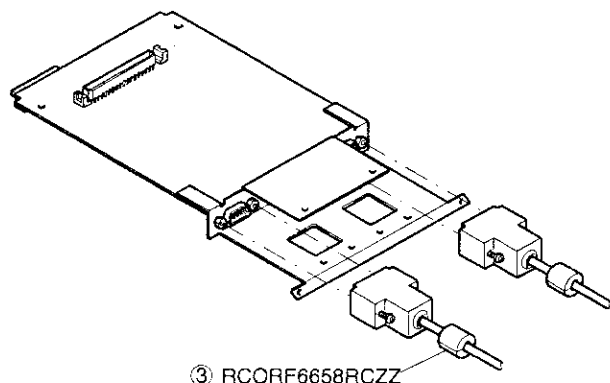

Fig. 3
- Be sure to install the core ③ (RCORF6658RCZZ) on RS-232C cable. (Fig. 3)